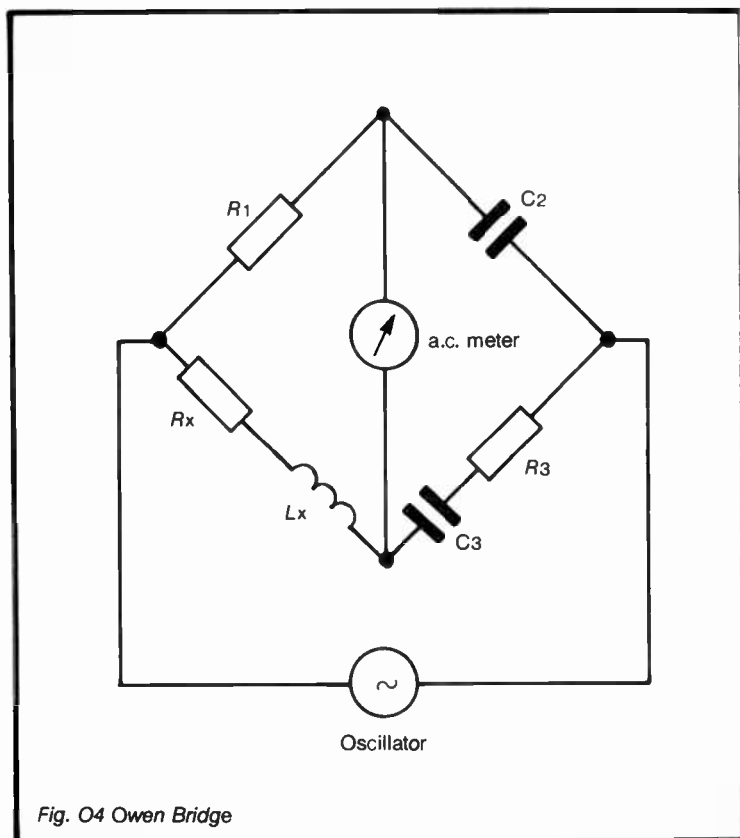

Fig. O4 Owen Bridge
**OWEN BRIDGE** is an a.c. bridge network which is used for measuring a wide range of inductance values in terms of resistance and capacitance. The circuit is shown in Figure O4 and in this  $L_x$  and  $R_x$  represent the unknown inductance. At balance (i.e. when there is no deflection on the meter), then: